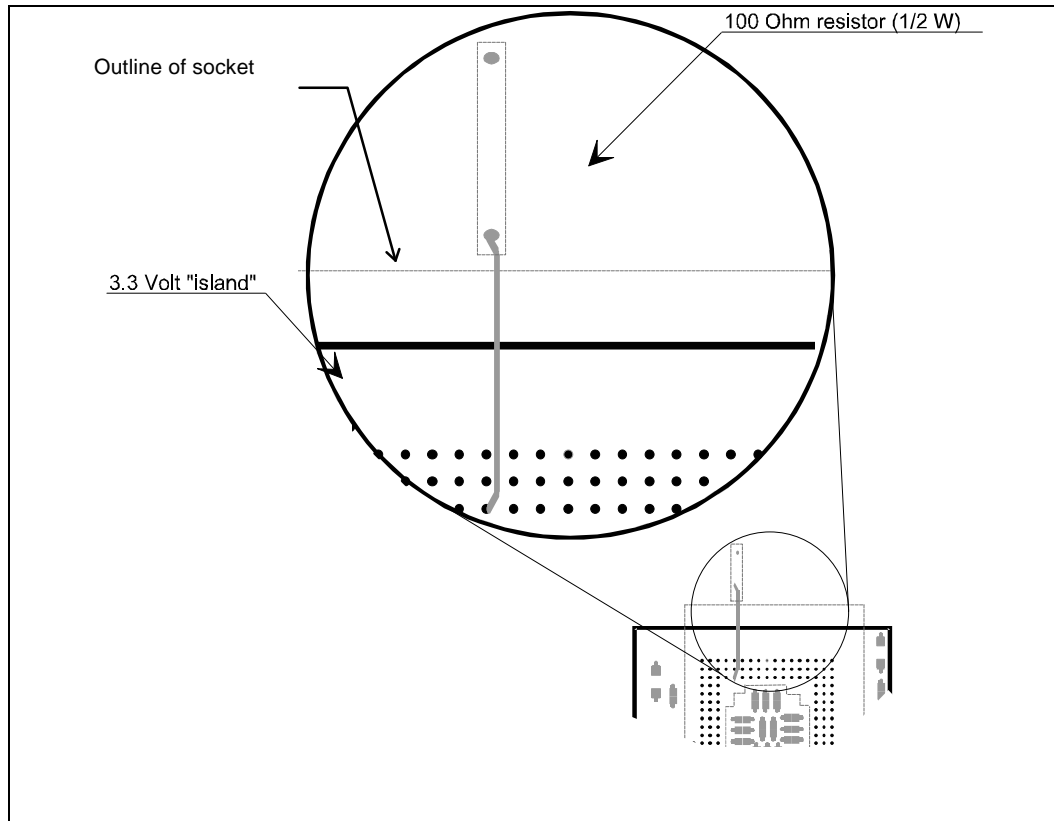

Figure 5. Possible Layout For VCC5 Pin Connection
- A 100  $\Omega$  resistor must be put in series with the VCC5 pin to limit the current through this path (Figure 5 shows a possible layout for this connection).